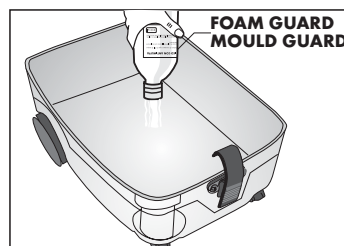

Fig. 7
Every time you use Gi Multix Power with detergent, pour some of the foam and mould prevention product in the recovery tank (G) in the quantities specified on the bottle. This way, the normal running of the appliance will not be jeopardised since no foam will be generated in the recovery tank. The mould-prevention product stops mould forming in the tank when the appliance is stored for some time (max. 30 days) in a not perfectly clean and dry condition (Fig. 7).